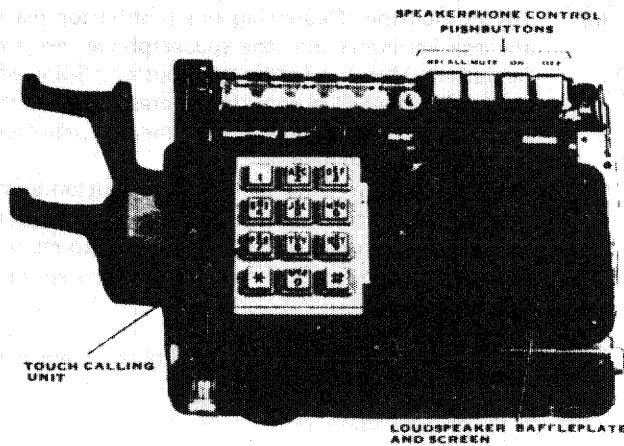

Figure 3. Type 881B Single-Line Speakerphone (Desk Version).
3.04 The top mounting plate is hinged to the baseplate. The plate swings away from the speakerphone chassis giving complete access to the internal circuitry and components. Wall-version speakerphones have a plastic top plate latch to hold the top plate in an upward position. A rotary dial or a Touch Calling unit is mounted on the hinged top plate of the speakerphone (Figure 3). The loudspeaker with its baffle plate and protective screen is also mounted to the top plate.